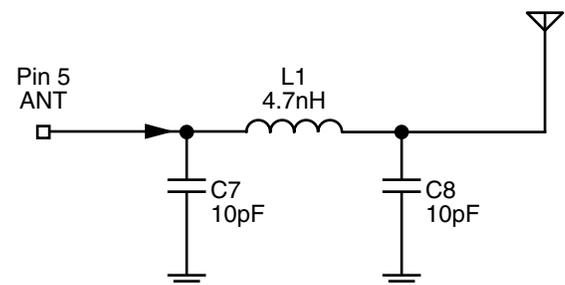
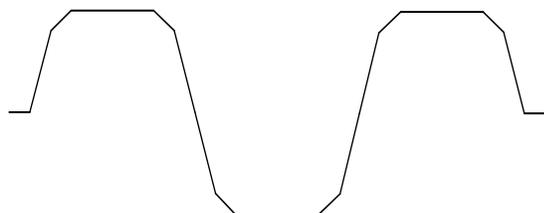

Figure 14. LC Filter
Figure 15. Modulator Waveform and Clock
A  $f_{\text{MOD\_CLK}}$  of 8 times the bit rate (as in Figure 14) corresponds to a signal filtered in a gaussian filter with a Bandwidth(Period-product (BT) of 1. When BT is increased, the waveform will be less filtered. Minimum BT is 1 (Mod\_clk is 8 times the bitrate). Figure 14 shows two waveforms with BT=1 and BT=2, i.e. the Mod\_clk is 8 and 16 times higher than the bit rate. When changing the BT factor, the charge- and discharge times will also be changed, and therefore the frequency deviation, as shown in Figure 15.
The current used during the rise- and fall times can be programmed with the Mod\_I4..Mod\_I0 bit, the last one being LSB. Figure 15 shows two waveforms generated with two different currents, where Mod\_Ia > Mod\_Ib. Higher current will give a higher frequency deviation and vice versa. The effect of modulator clock and MOD\_1 is illustrated by